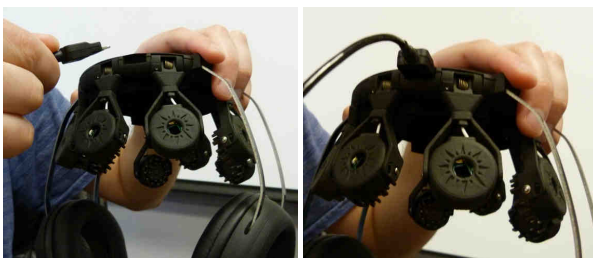

Figure 24. Trigger input connector on Wearable Sensing's DSI-7 systems.
- The trigger inputs are accessible via the input connector on the input connector of the electronics package (Figure 24).